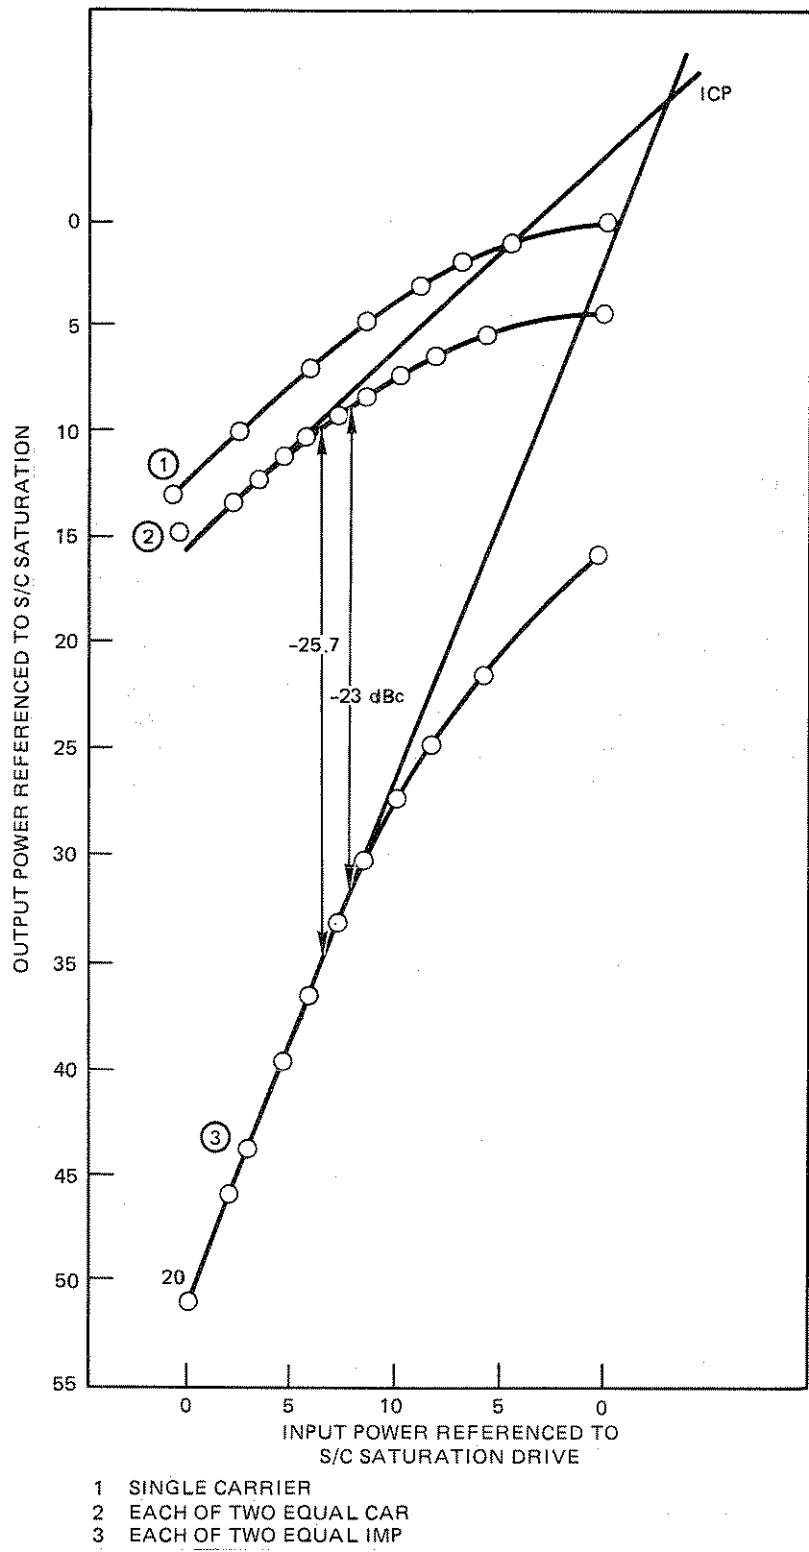

Figure 2.7-2 Typical third-order product curve.
When amplifying multiple carriers, intermodulation (IM) products will occur with levels dependent on the region of operation. Because their frequency placement comes closest to the desired carriers, third order products are of greatest concern. Figure 2.7-2 shows a typical third-order IM product curve. Note that in the linear gain region, a change of one dB RF output causes a 3-dB change in the third-order IM product level. In addition, note that the RF output power is distributed among the carriers and their IM products. Therefore, if the saturated output power for a single carrier is 20 watts and the TWT is driven to saturation by two carriers, the output of each amplified carrier will be somewhat less than 10 watts because of the power absorbed by generation of the IM products.